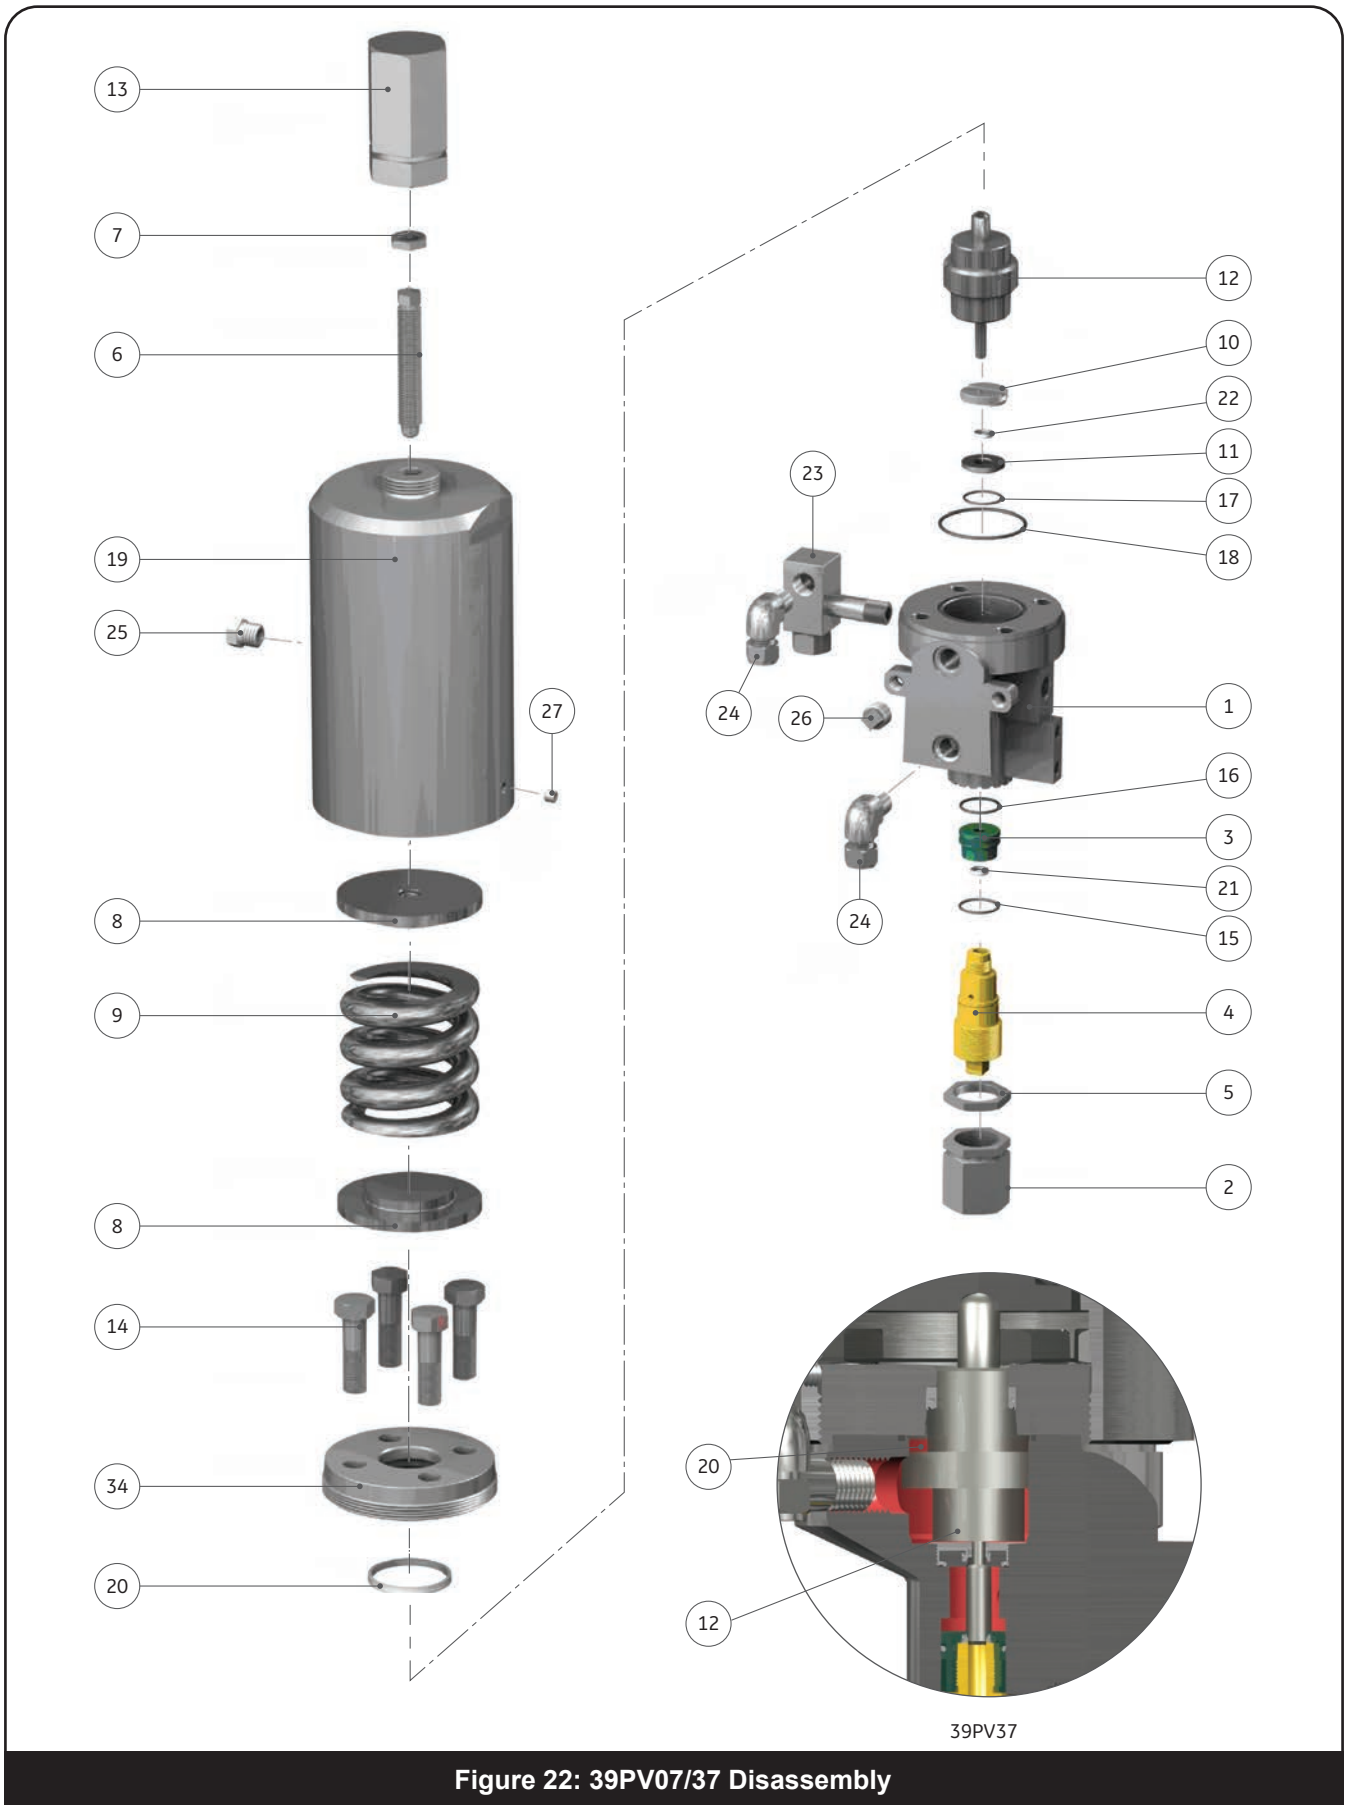
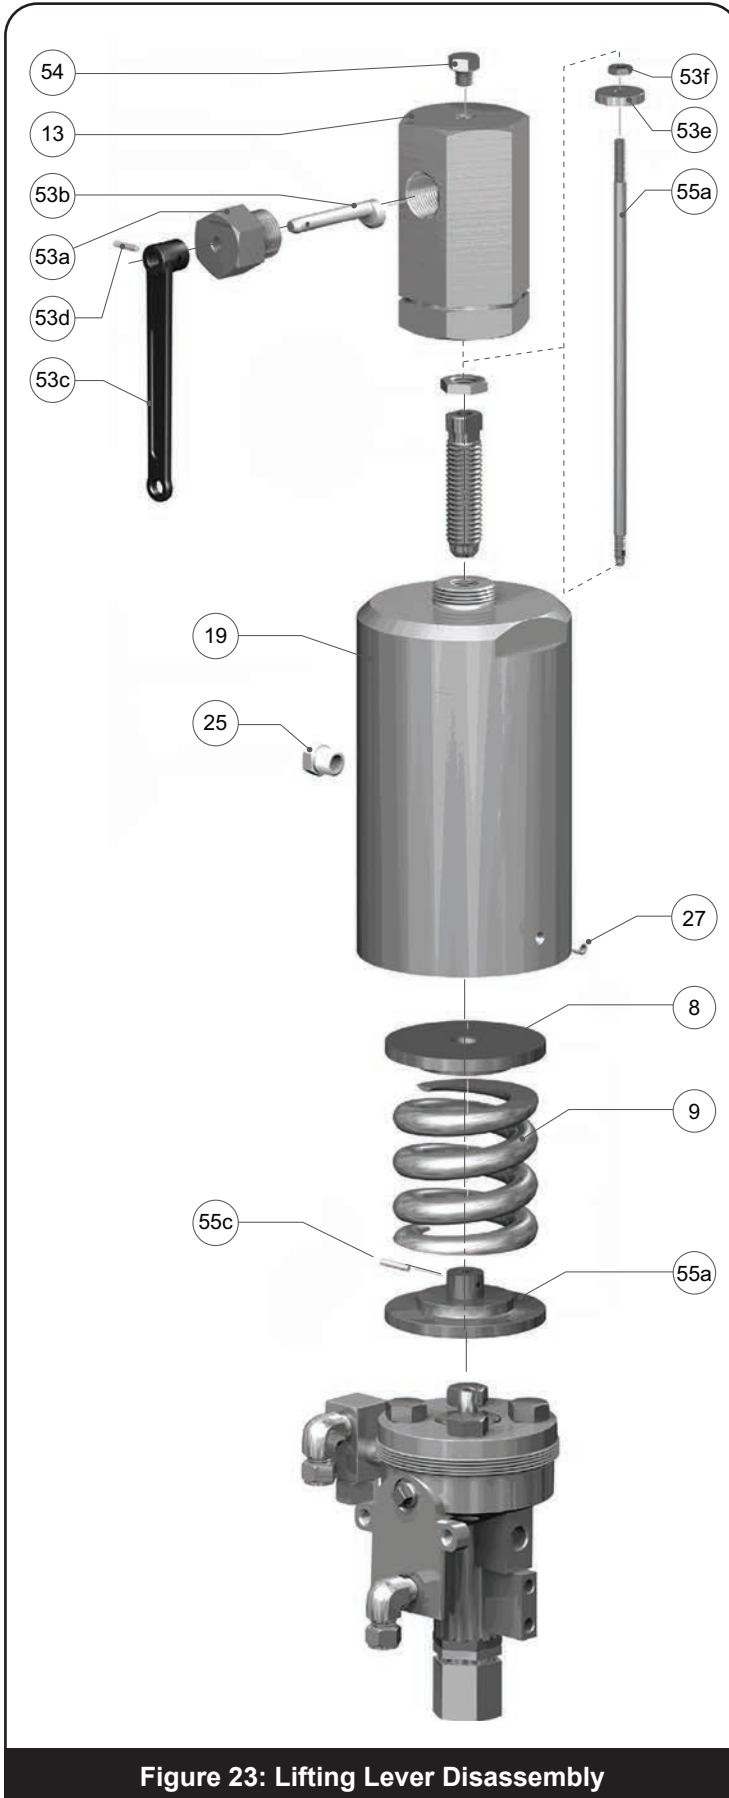
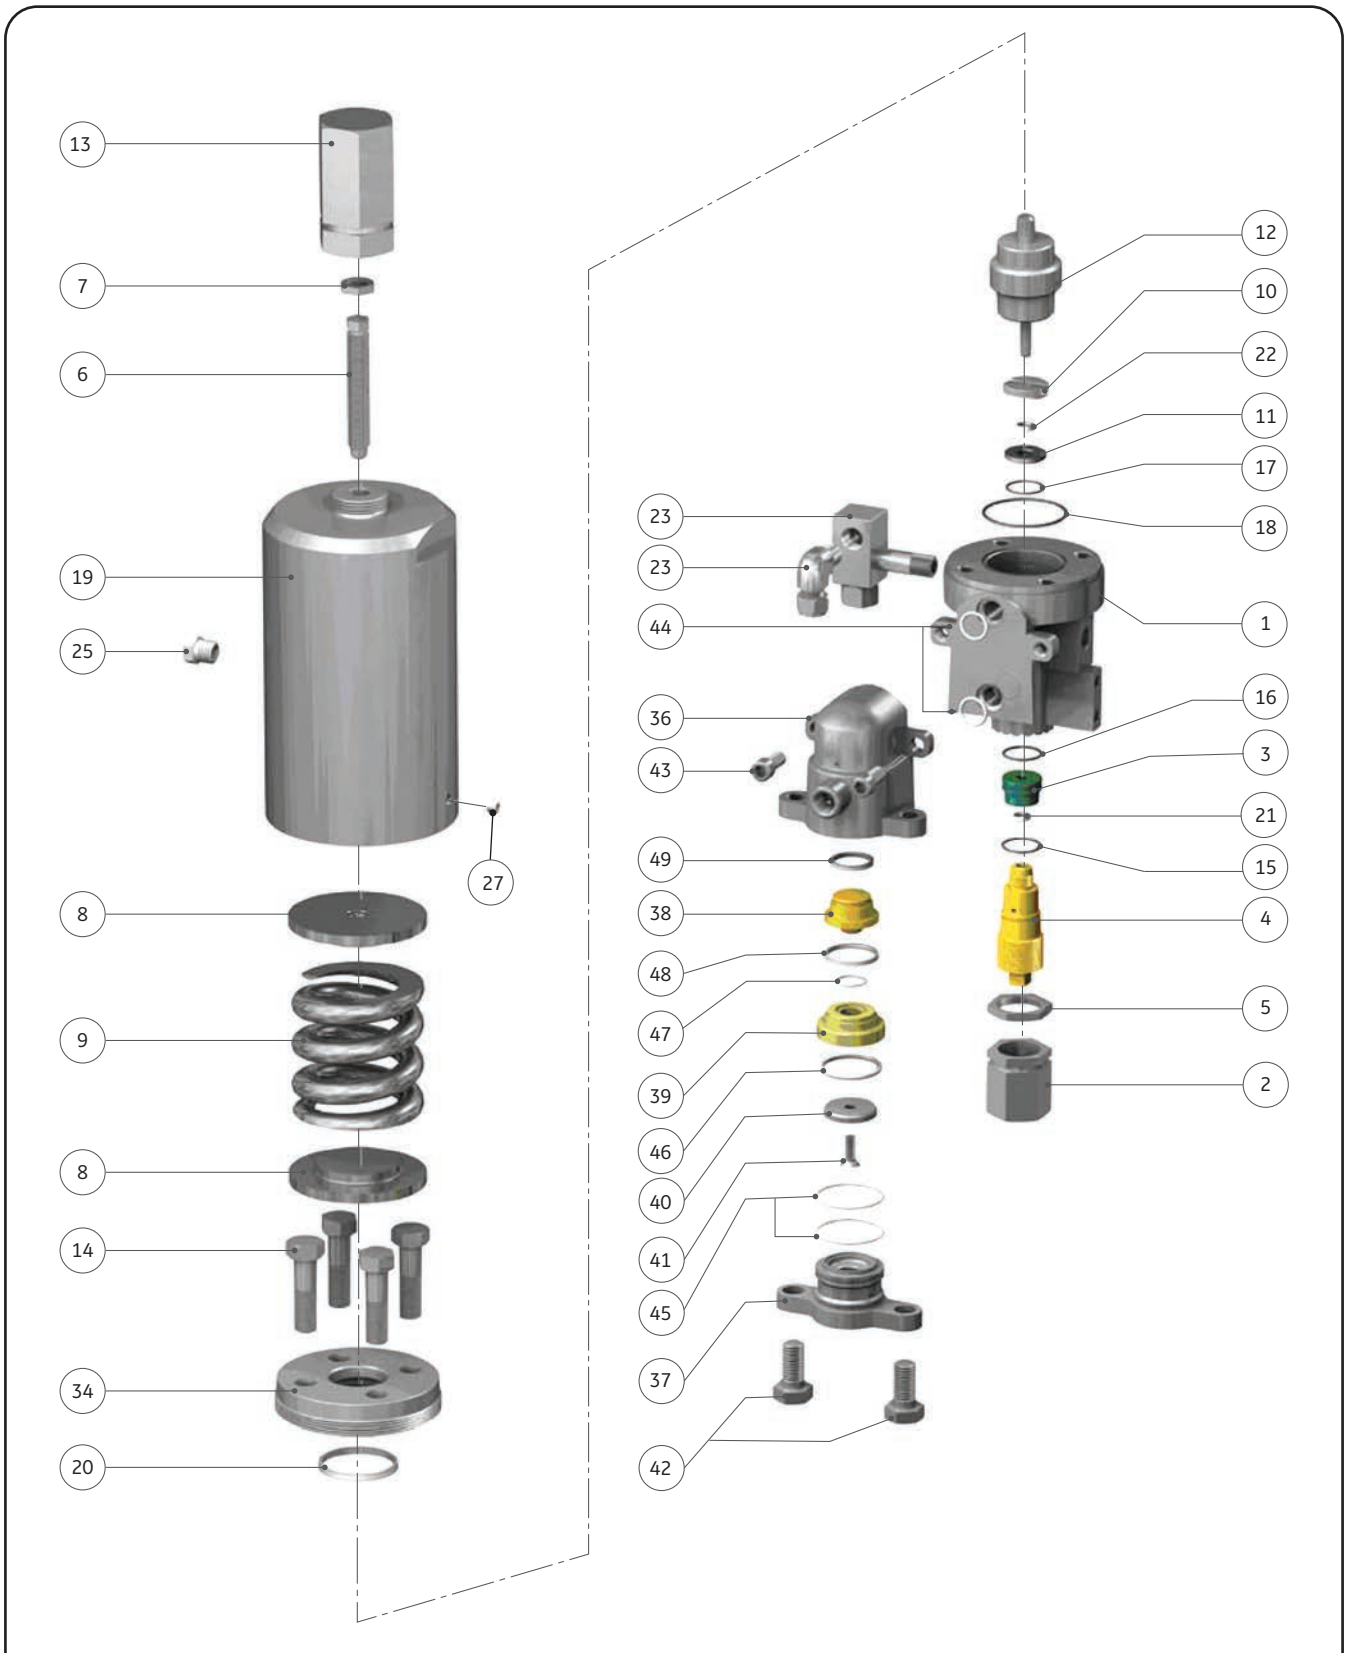

Figure 22: 39PV07/37 Disassembly
Figure 23: Lifting Lever Disassembly
Figure 24: 39MV07 Disassembly
Figures 22 and 23
3. If a lifting lever is installed, also use Figure 23 to remove the Lifting Lever assembly. Then return to Figure 22 to continue disassembly.
Figures 23 and 24
3. If a lifting lever is installed, also use Figure 23 to remove the Lifting Lever assembly. Then return to Figure 24 to continue disassembly.
3. If a lifting lever is installed, also use Figure 23 to remove the Lifting Lever assembly. Then return to Figure 25 or 26 to continue disassembly.